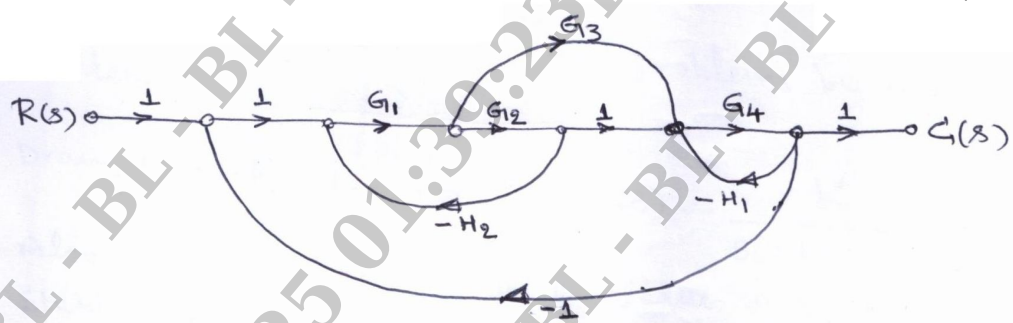

Fig. Q6 (a)
- b. Find $\frac{C(s)}{R(s)}$ for the following system shown in Fig. Q6 (b). Use Mason's gain formula.